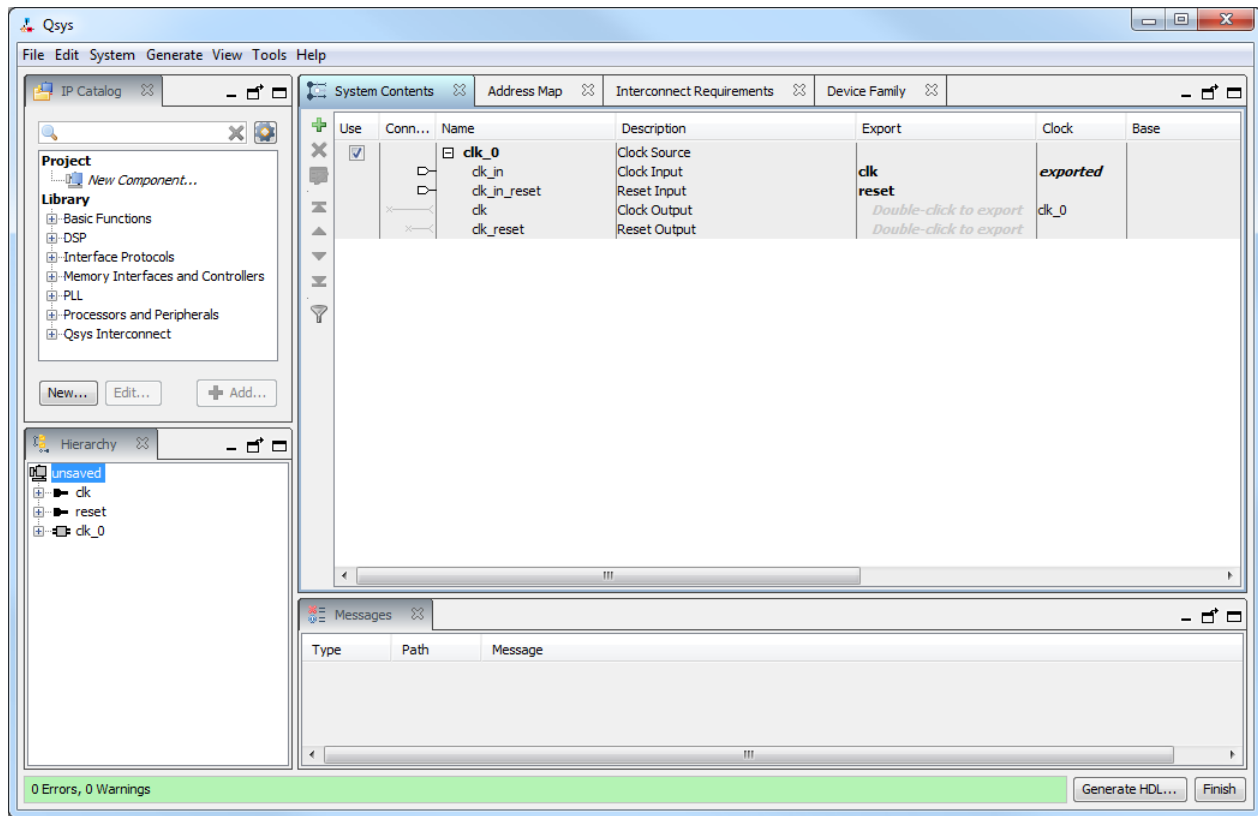
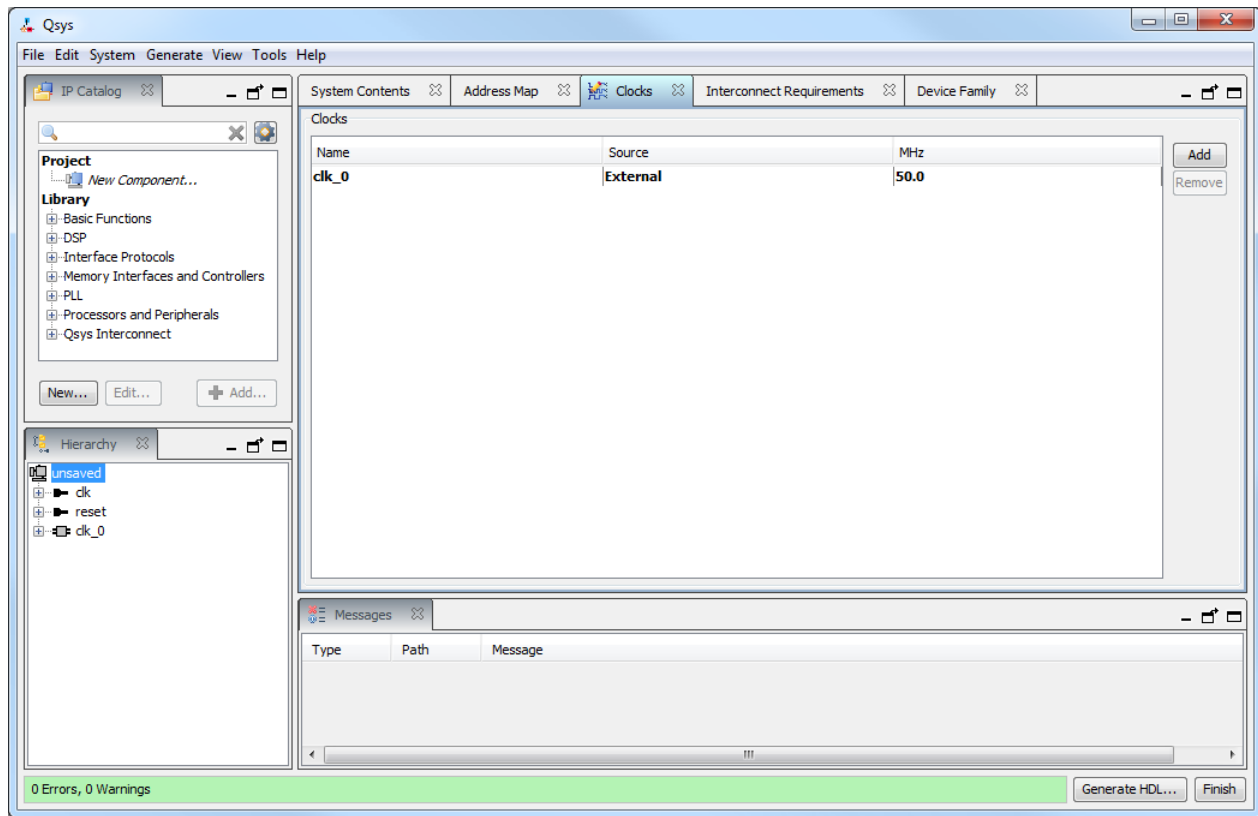

Figure 4. Create a new Nios II system.
Figure 5. The Clock Settings tab.
2. After completing the New Project Wizard to create the project, in the main Quartus II window select **Tools > Qsys**, which leads to the window in Figure 4. This is the System Contents tab of the Qsys tool, which is used to add components to the system and configure the selected components to meet the design requirements. The available components are listed on the left side of the window.
- The hardware system that will be generated using the Qsys tool runs under the control of a clock. For this tutorial we will make use of the 50-MHz clock that is provided on the DE2-115 board. In Figure 4 select **View > Clocks** to bring the Clocks tab to the foreground, as illustrated in Figure 5. Here, it is possible to specify the names and frequency of clock signals used in the project. If not already included in this tab, specify a clock named *clk_0* with the source designated as **External** and the frequency set to 50.0 MHz. The settings are made by clicking in each of the three columns: Name, Source and MHz.